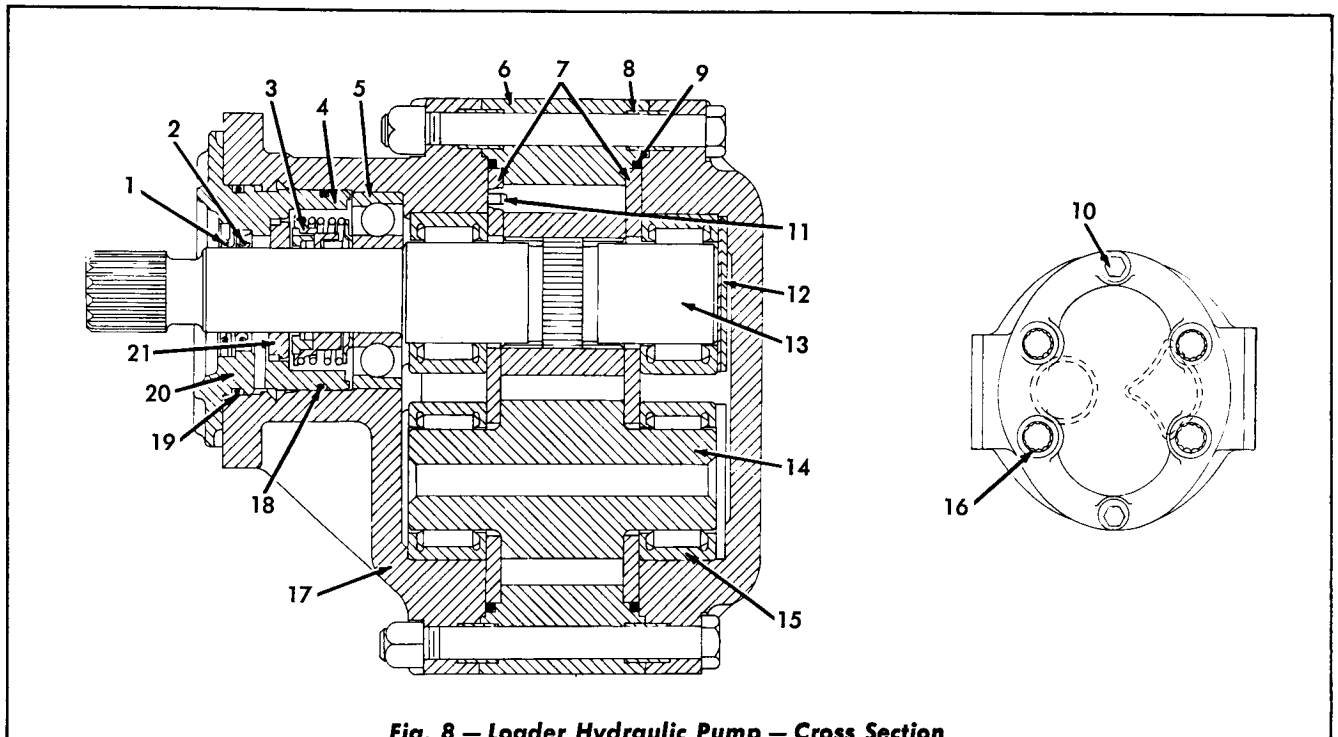

Fig. 8 – Loader Hydraulic Pump – Cross Section
B. Disassembly of Hydraulic Pump (Refer to Fig. 8)